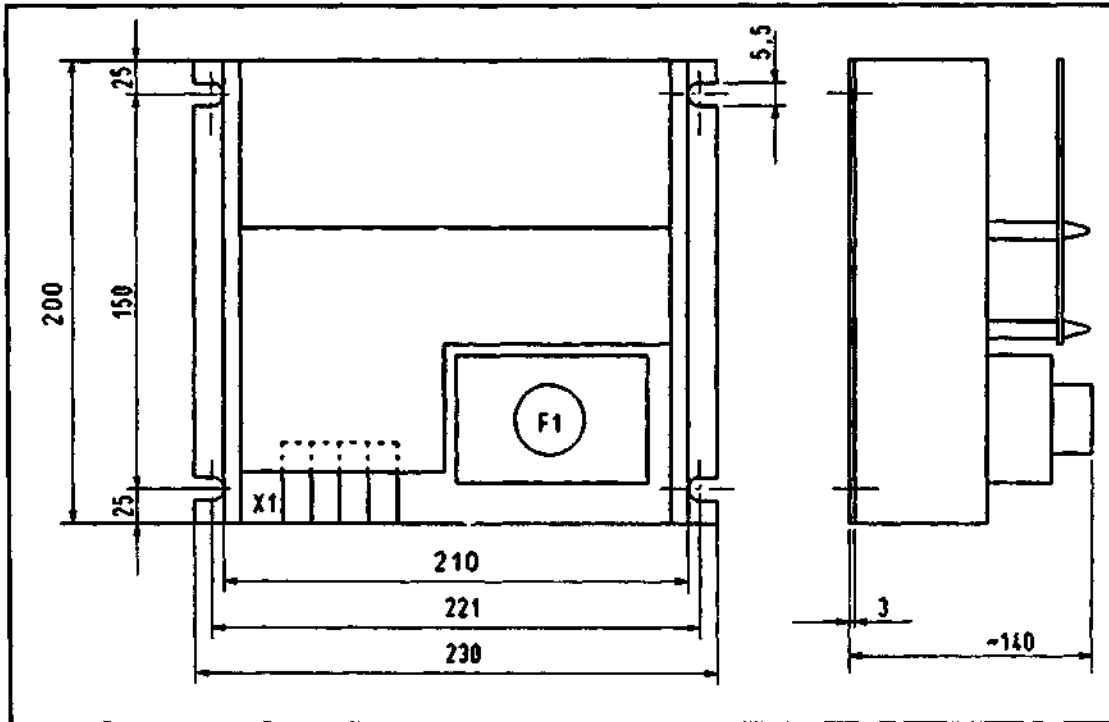

Figure 4.1
- ☞ Use the hole pattern to orient yourself, see Figure 4.1 on the following page.